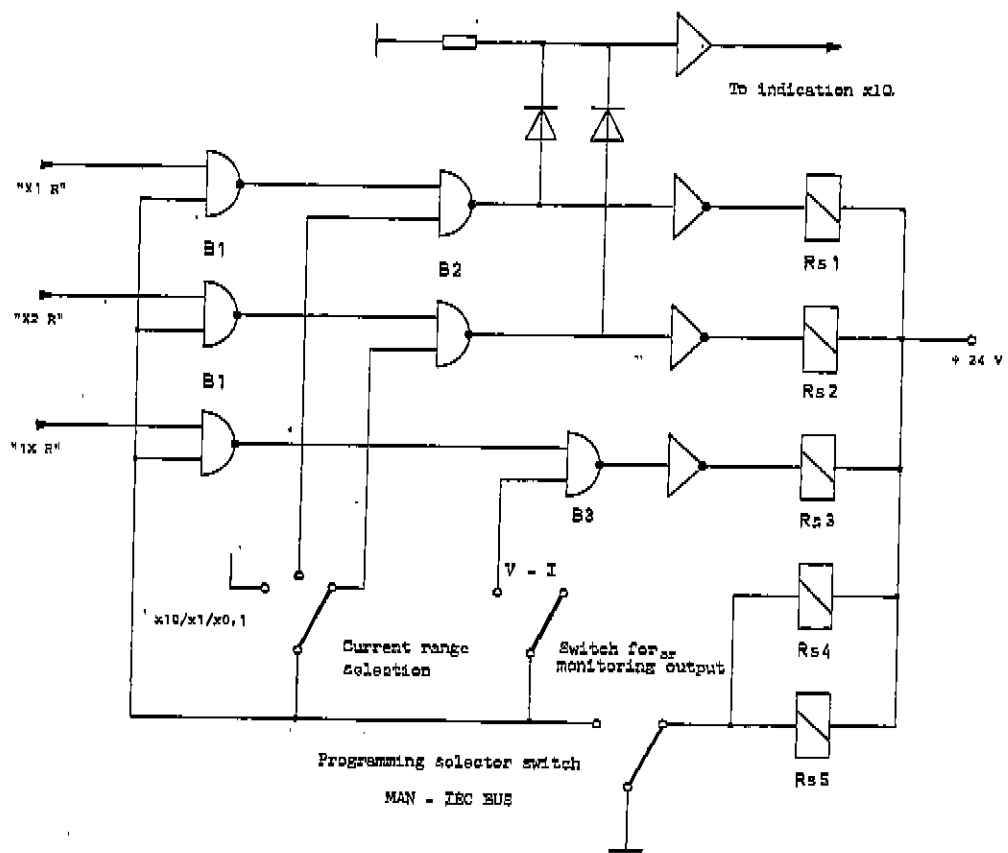

Fig. 8: Principle of data switchover
4.8 Switchover MAN - IEC BUS (See Fig. 8)